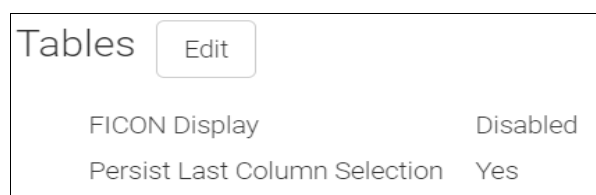

Figure 6-9 Editing FICON Display
2. Scroll to the bottom of the next window and find FICON Display under the Tables section. If the FICON Display is Disabled, click **Edit**, as shown in Figure 6-9.